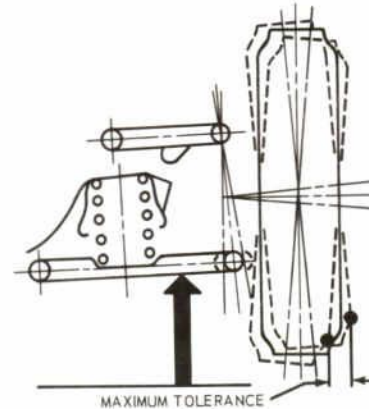

Figure 5—Measuring Lower Ball Joint Radial Play
1. Raise the car on jacks placed under the lower control arms as shown in Figure 5. This will unload the ball joint.